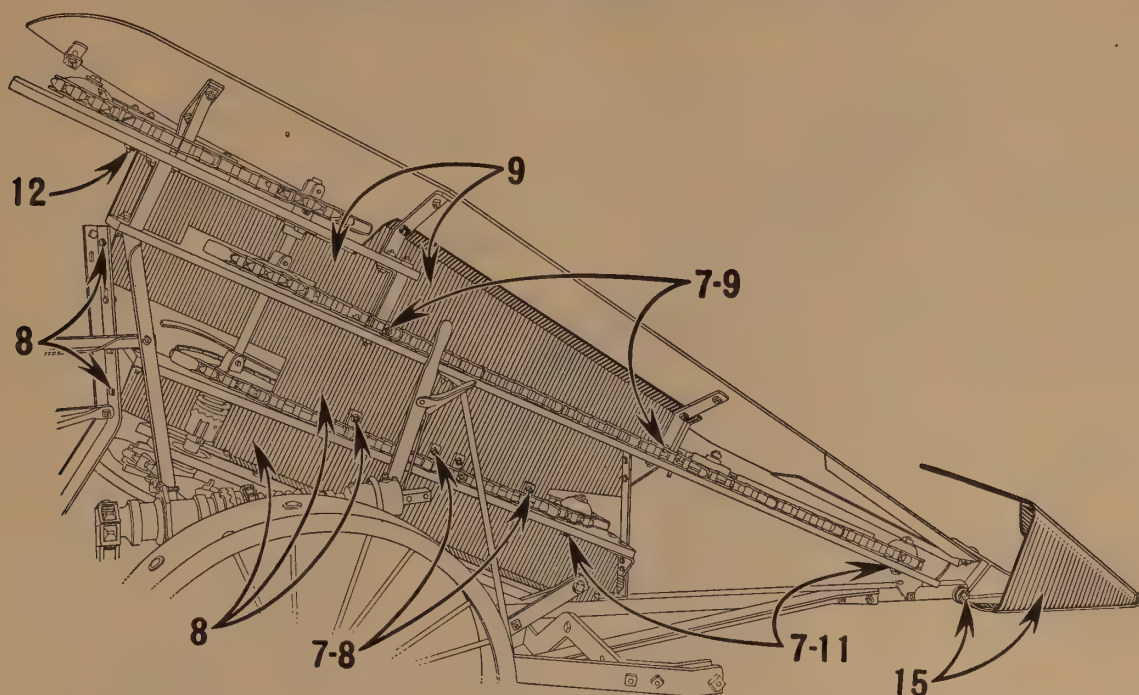

Fig. 55
7. (Fig. 55.) Remove tension from R. H. Gatherer Chains, then remove Chain Guide Boards.
*8. (Fig. 55.) Attach Shield between Butt Chain Board, Upper and Middle Gatherer, **at same time** attaching shield between Middle Gatherer and R. H. Gatherer Chain Boards. Replace Middle Gatherer Chain Guide Board.
*9. (Fig. 55.) Attach Shield between R. H. Gatherer Chain Board and Gatherer Top Board **at same time** replacing Chain Guide Board.
11. (Fig. 55.) Adjust tension of R. H. Gatherer Chains.
15. (Fig. 55.) Bolt R. H. Gatherer Extension Point to R. H. Gatherer Point—H92H.